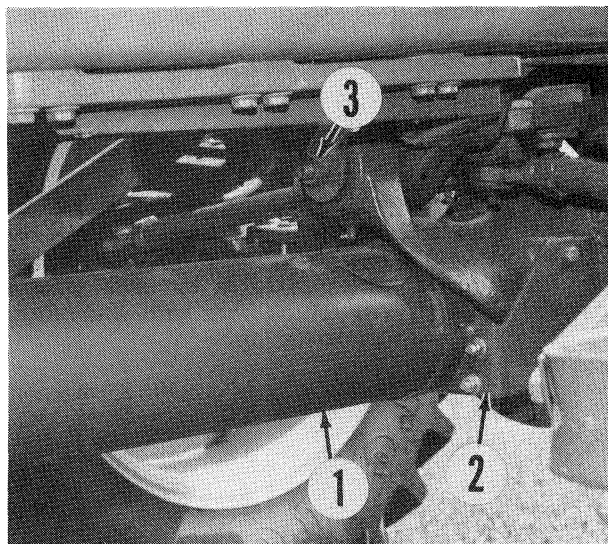

Fig. 24—Rear view of front-wheel drive axle.
then withdraw wheel hub with axle shaft as a unit from axle housing. Remove the other planetary assembly in the same manner. Disconnect steering assist cylinders, if so equipped. Slide drive line shield rearward and remove drive line front support (2—Fig. 24). Remove cap screws attaching drive shaft front U-joint to front yoke. Remove axle rear pivot retaining nut (3). Remove differential carrier mounting cap screws. Note different lengths of cap screws and their positions for reassembly. Support carrier housing, then pry housing and differential assembly from axle housing.